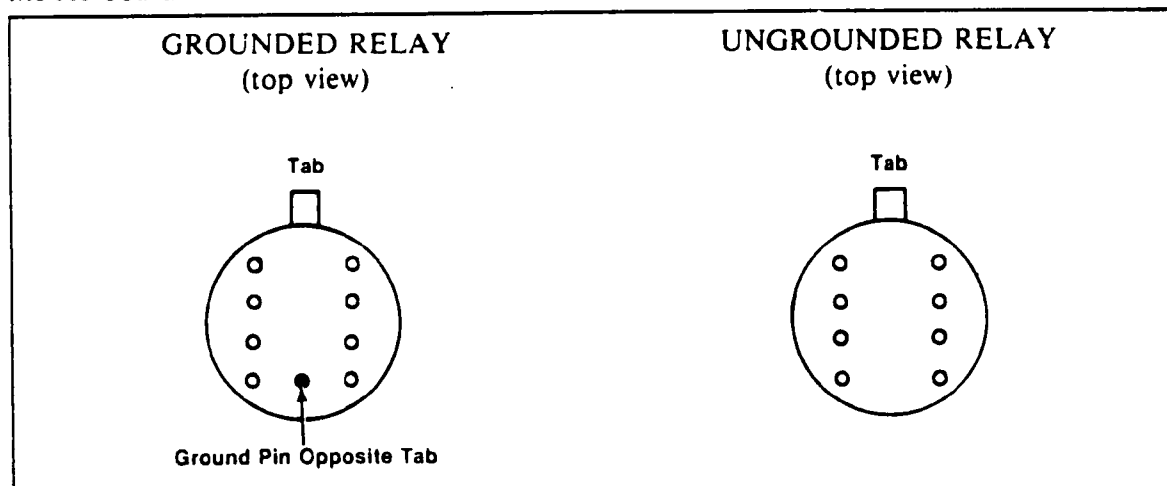

Figure 5. Grounded and Ungrounded Relays.
The relays on the A1 board of instruments with these serial numbers may be either part number 0490-1318, or 0490-1319. These two relays may be identified by checking for the ground pin as shown in figure 5. Part number 0490-1318 is a grounded case relay, part number 0490-1319 is an ungrounded case relay. Use the following guidelines to replace a failed relay.
1. Check the relay to see if the case is grounded as shown in figure 5.